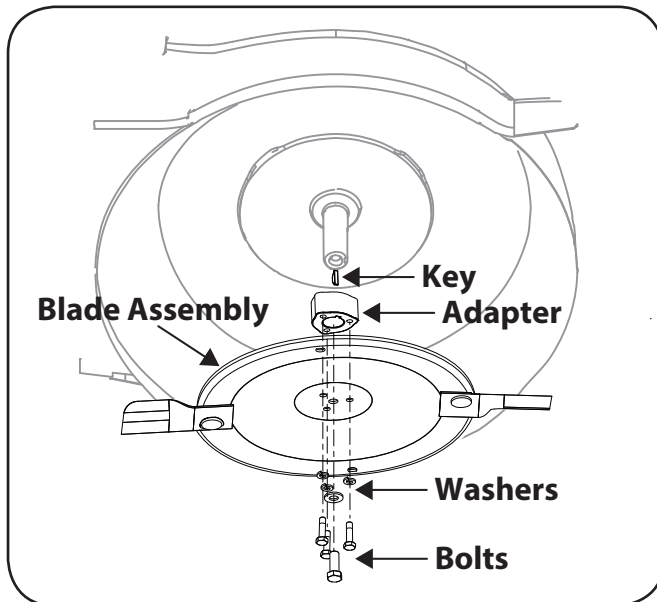

Figure 7-1
5. Lubricate the engine crankshaft and the inner surface of blade adapter with light oil. Slide the blade adapter onto the engine crankshaft. Place the blade assembly on the adapter such that the side of the blade without a wing faces the ground when the mower is in the operating position. Make sure that the blade assembly is aligned and seated on the blade adapter flanges. See Fig. 7-1 inset.